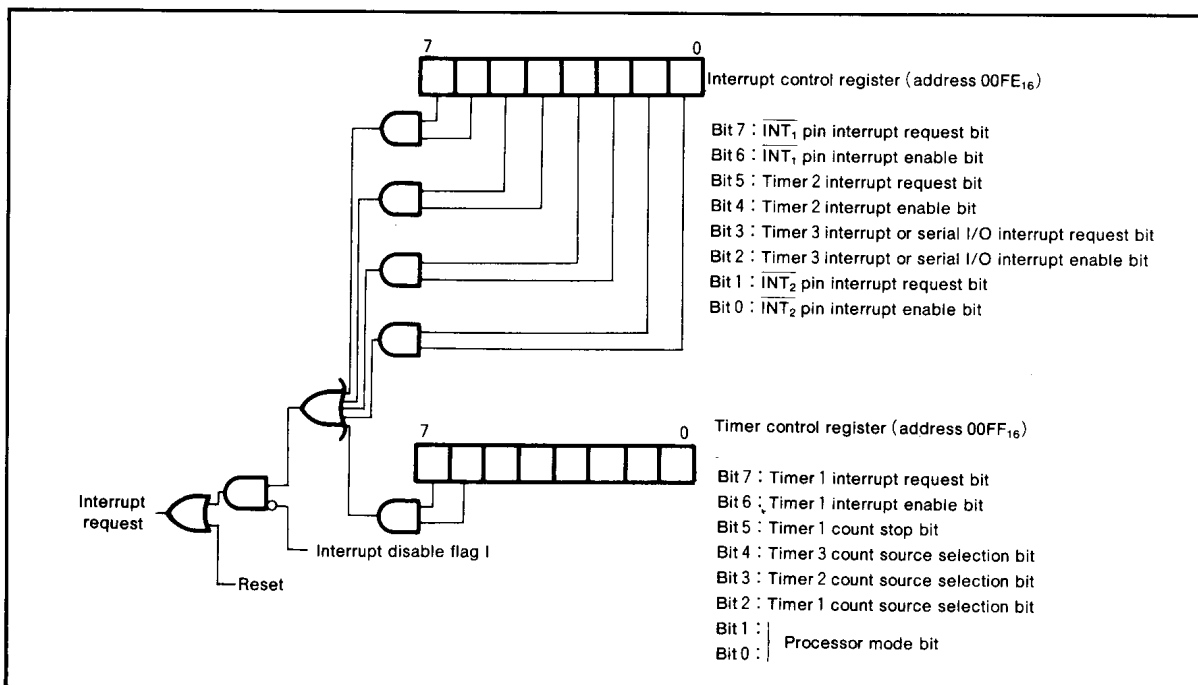

Fig. 3 Interrupt control
When an interrupt is accepted, the contents of certain registers are pushed into specified locations, as discussed in the stack pointer section, and the interrupt disable flag (1) is set, and the program jumps to the address specified by the interrupt vector, and the interrupt request bit is cleared automatically. The Reset interrupt is the highest priority interrupt and can never be inhibited. Except for the Reset interrupt, all interrupts are inhibited when the interrupt disable flag is set to "1". All of the other interrupts can further be controlled individually via the interrupt control register shown in Figure 3. An interrupt is accepted when the interrupt enable bit and the interrupt request bit are both "1" and the interrupt disable flag is "0". The interrupt request bits are set when the following conditions occur:
- (1) When the \overline{INT}_1 or \overline{INT}_2 pins go from "H" to "L"
- (2) When the levels any pin of P2 goes "L" (at power down mode)
- (3) When the contents of timer 1, timer 2, timer 3 or the counter of serial I/O go to "0"